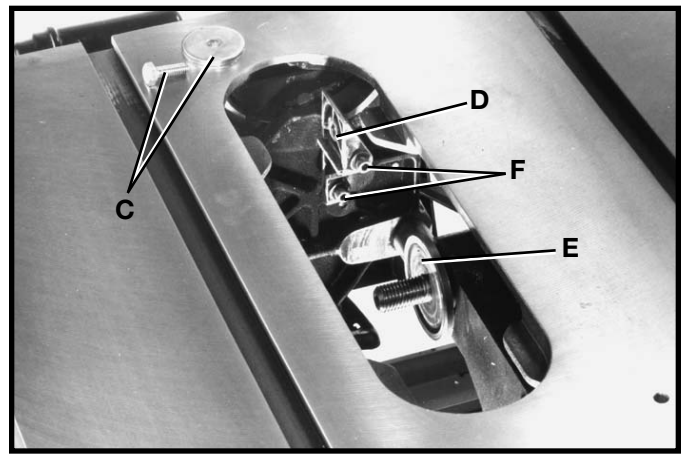

Fig. 31
5. If an alignment is necessary, loosen the two screws (F) Fig. 31, align bracket (D) with the arbor flange (E) and tighten screws (F).
6. Loosely assemble large washer and screw (C) Fig. 31, to the inside splitter bracket. This screw and washer was removed in **STEP 3**.